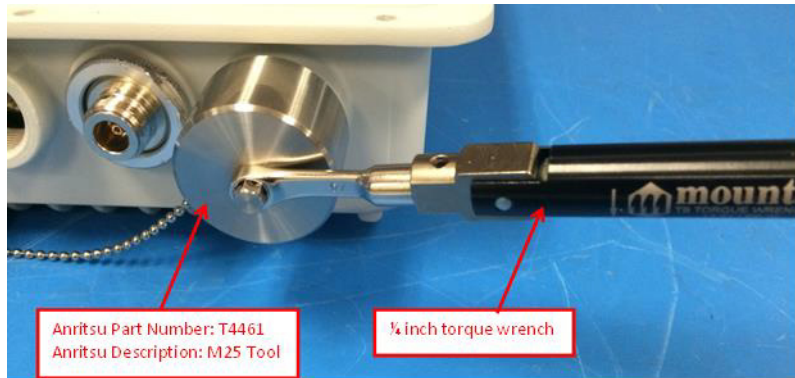

Figure 3-10. Port Replacement
3. Using the Anritsu T4461 (M25 Tool) and a 1/4 wrench, rotate the housing of the N to SMA adapter counter clockwise until the N connector is removed, as shown in Figure 3-10.